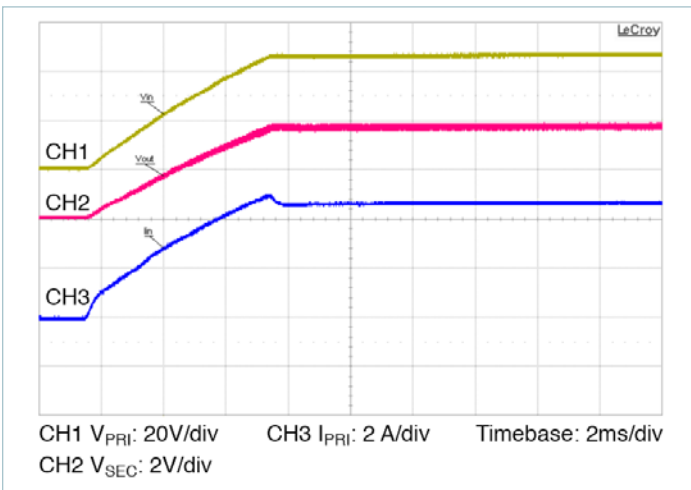

Figure 13 — Start up from application of V_{PRI} ; V_C pre-applied $C_{SEC} = 9100\mu F$
- Normal operation (VC applied prior to the source voltage): In this case, the controller is active prior to the source ramping. When the source voltage is applied, the VTM module load voltage will track the source (See Figure 13). The inrush current is determined by the source voltage rate of rise and load capacitance. If the VC voltage is removed prior to the primary voltage reaching 26V, the VTM may shut down.